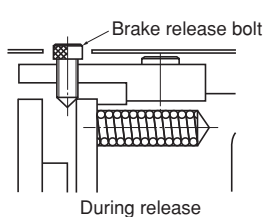

Fig.43
- (1) Remove the brake release bolts arranged diagonal to each other, and remove the spacer. Then screw in the bolts with a hexagon wrench, and the brake will be released. Be careful not to turn the brake release bolts excessively. (Check to see if the brake is released, while turning the brake release bolts.) (See Fig.43.)